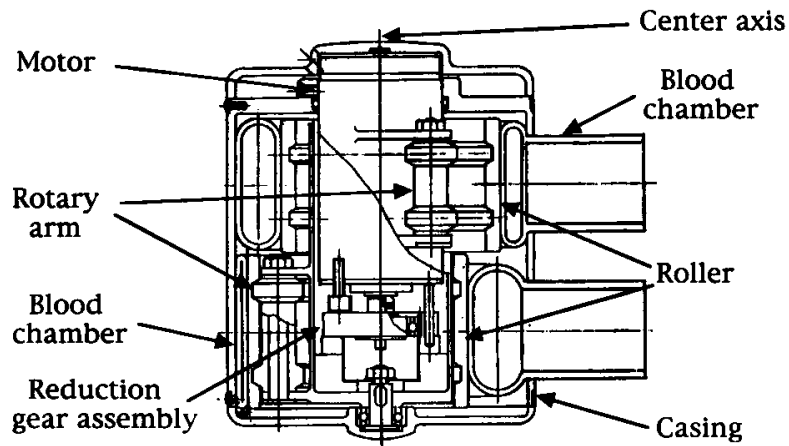

FIG. 1. Shown is the structure of the eccentric roller type TAH developed at Hiroshima University.
FIG. 1. Shown is 1 cycle of the TAH work in the following test condition ($\bar{\quad}$ mean average value): $\langle AP \rangle = 1$ kPa, $\langle AoP \rangle = 13.3$ kPa, HR = 90 bpm, 40% systole, $DP = 30/-5$ kPa (systole/diastole pressure). Included are the time dependent driving pressure (DP); inlet flow (Q_i) and outlet flow (Q_o); pressure gradients on the membrane, inlet, or outlet valve (ΔP_m , ΔP_{vi} , ΔP_{vo} , respectively); and energy dissipated on the membrane (EL_m), outflow valve (EL_{vo}), and inflow (EL_{vi}) valve.